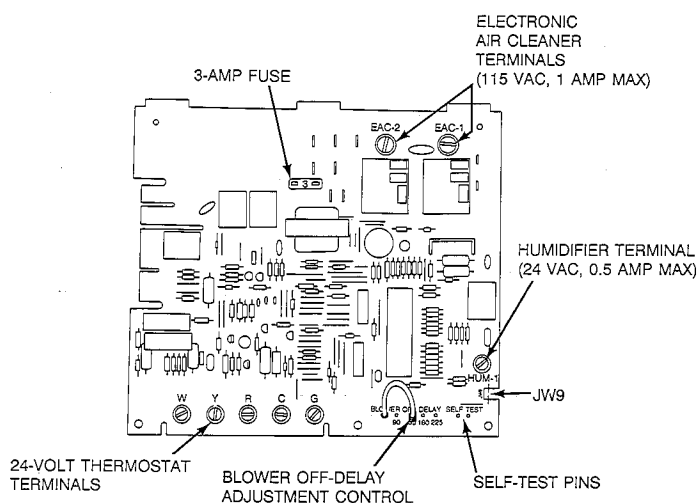
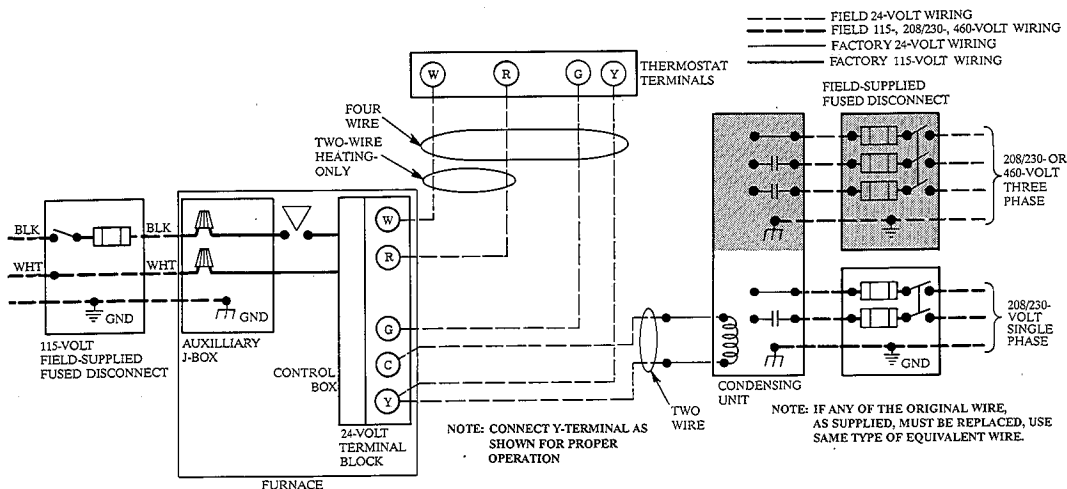

Figure 11—Control Center A91060
Figure 12—Heating and Cooling Application Wiring Diagram
Make field 24-volt connections at the 24-volt terminal strip. (See Figure 11.) Connect terminal Y as shown in Figure 12 for proper operation in cooling mode. Use AWG No. 18 "color-coded" wire only.
1. Self-test—The furnace features a self-test system to help diagnose a system problem in the case of a component failure. Two test pins (ST-1 and ST-2) are located in the upper right-hand corner of the control board as shown in Figure 11. To initiate the self-test procedure, momentarily short across the two pins (approximately 0.5 seconds).